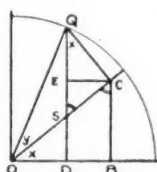

FIG. 19
is not in a simple form for a ready solution, and time will be taken now to show how this may be changed. We shall digress from the present problem for a moment and prove a very important trigonometric function. With reference to Figure 19, we can readily see that the sum of the sine of the two angles x and y (BOQ) can be expressed as indicated in equation (1). We have